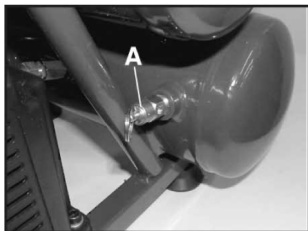

FIGURE 6
SAFETY PRESSURE RELEASE VALVE (A) FIG. 6
- 4) Pull ring on safety valve (A) Fig.6, allowing air to bleed from the tank until tank pressure is approximately 20 PSI. Release safety valve ring.
plugged, pull ring on safety valve (A) Fig.6, and hold until all air pressure has been released. The drain valve can